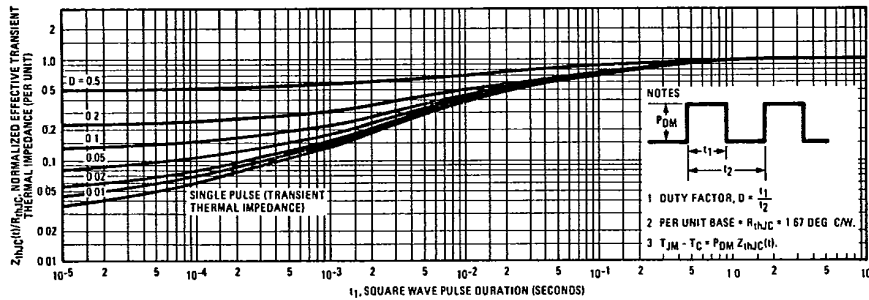

Fig. 5 - Maximum Effective Transient Thermal Impedance, Junction-to-Case Vs. Pulse Duration
① T_J = 25°C to 150°C ② Pulse Test: Pulse width < 300μs, Duty Cycle < 2%. ③ Repetitive Rating: Pulse width limited by max. junction temperature. See Transient Thermal Impedance Curve (Fig. 5).